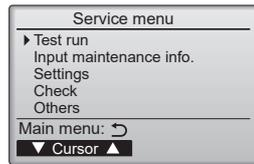

Fig. 7-3
- (3) Select "Test run" with the or button, and press the button. (Fig. 7-3)